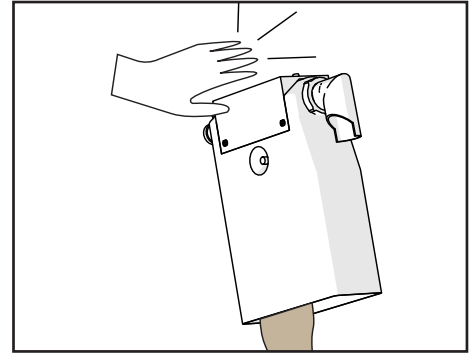

Figure 47.
1. Empty the product canisters (see Figure 47).